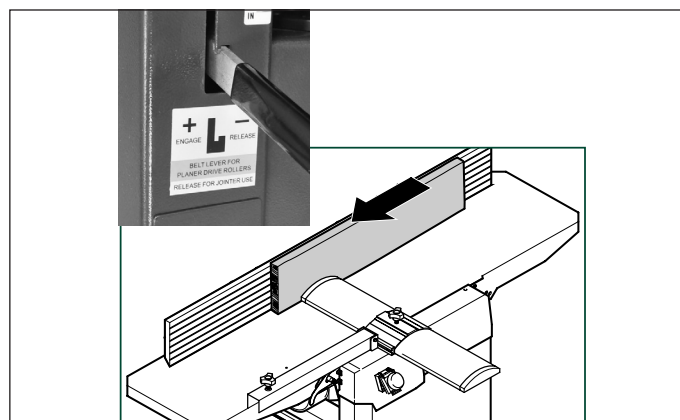

FIG. 13
4. Release the Belt Lever for Planer Drive Rollers, at the jointer outfeed end of the cabinet. FIG. 13. This will transfer more power directly to the cutterhead.